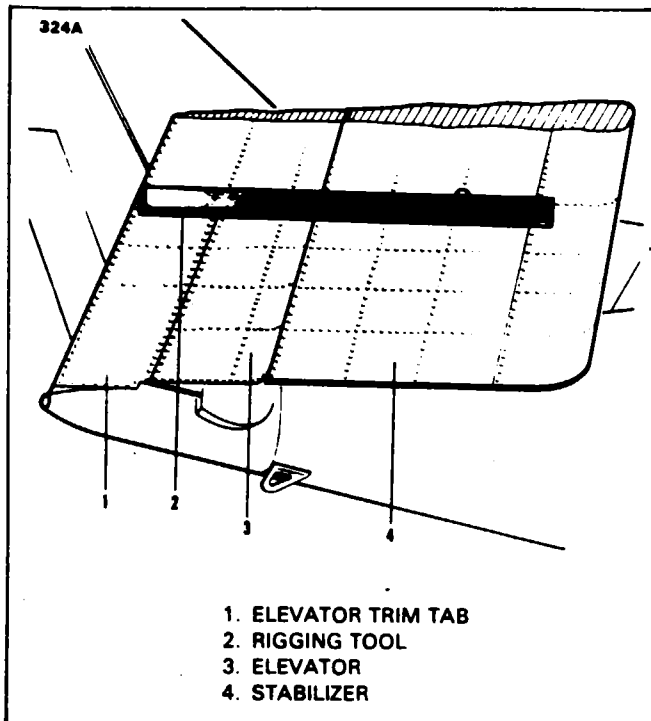

Figure 27-20. Installation of Elevator Rigging Tool
2. Put the elevator in neutral position by placing a modified straightedge, as shown in Figure 27-20, against the underside of the horizontal stabilizer, next to and outboard of the row of rivets at station 38.00 with the aft end of the tool even with trailing edge of the elevator. (This tool may be fabricated from dimensions given in Chapter 95.)